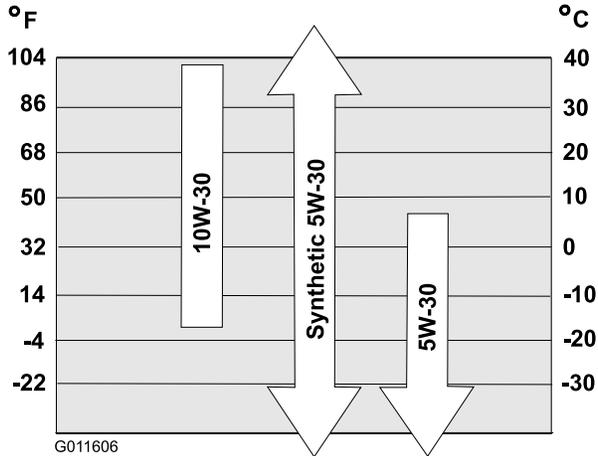

Figure 14
Use Figure 14 to select the best oil viscosity for the outdoor temperature range expected:
**Note:** Fill the engine crankcase with oil until the dipstick indicates that the engine oil level is correct as shown in Figure 14. If you overfill the engine with oil, remove the excess oil as directed in Changing the Engine Oil.